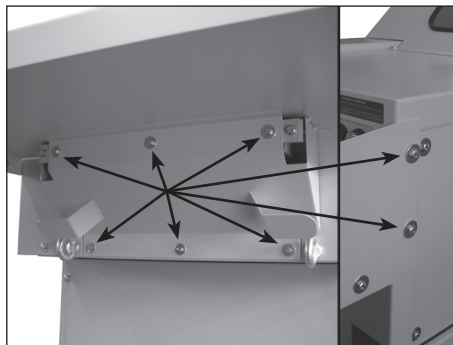

fig. 3
3. Using the previously unscrewed eight screws and washers, screw the table to the housing (3 at the front, 2 on the side) and the front of the conveyor belt attachment (3 screws) (fig. 3).